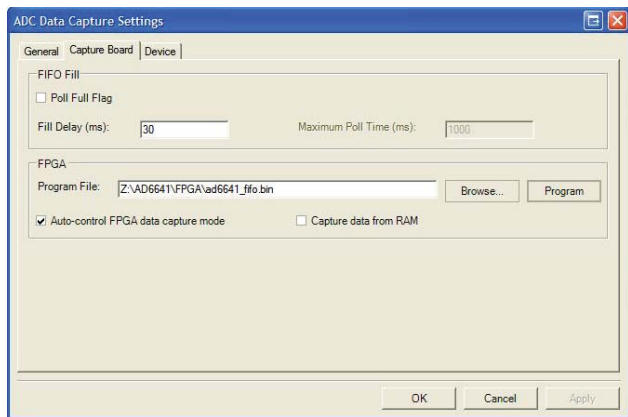

Figure 8. Capture Board Settings
2. In the **ADC Data Capture Settings** box, click the **Capture Board** tab (see Figure 8). The **ad6641_fifo.bin** program file should be displayed in the **Program File** box. If it is not, use the **Browse** button to locate the file.